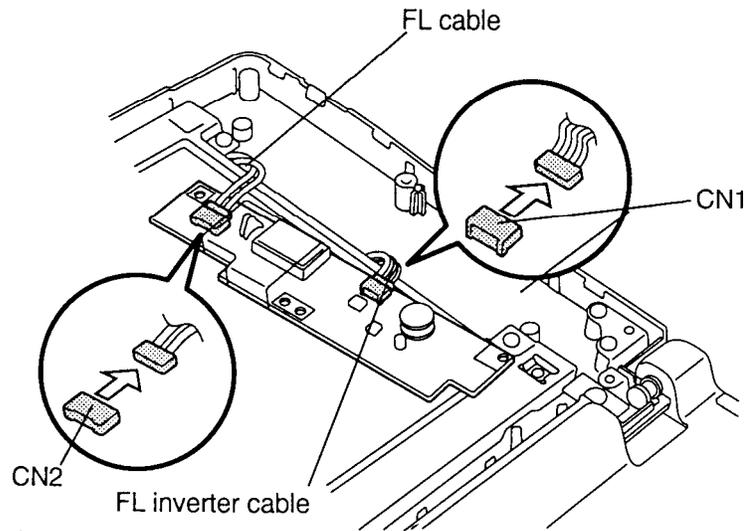

Figure 4-35 Disconnecting the FL inverter board
4. Rotate the FL inverter board out of its seating and disconnect the **FL inverter cable** from **CN1** and the **FL cable** from **CN2** on the FL inverter board (figure 4-35).
1. Connect the **FL inverter cable** to **CN1** and the **FL cable** to **CN2** on the FL inverter board (figure 4-35).